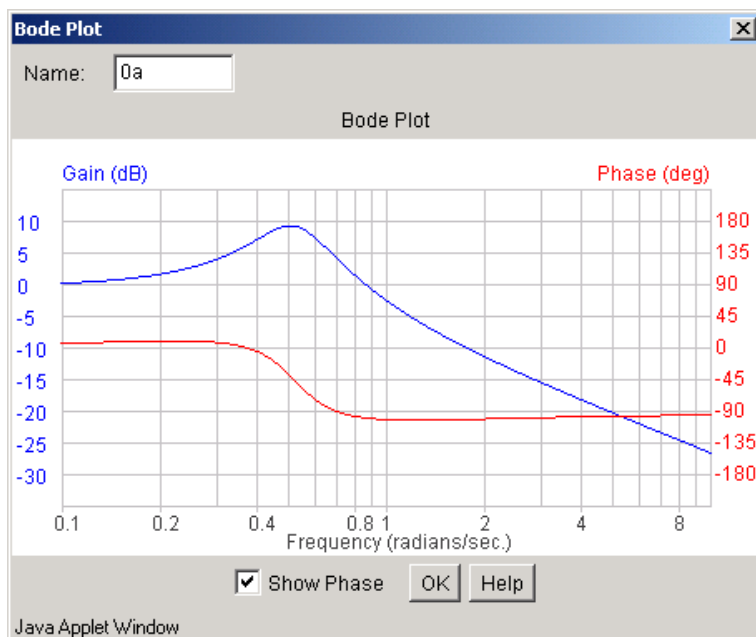

Figure 1: A bode plot saved using example 1
- Step3: At the Ms Word file that you wish to save your work in, place the cursor where you need your work to appear and press *Ctrl-V* (or right-click and Paste). The result is shown in figure 1: